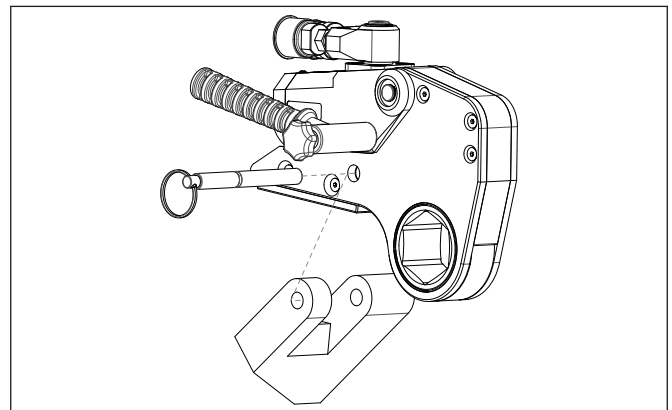

Figure 6: Installing Reaction Paddle
3.2.3 Using Extended Reaction Arm/ Reaction Paddle with the HMT with HLP Cassette (Fig. 6/ 7)